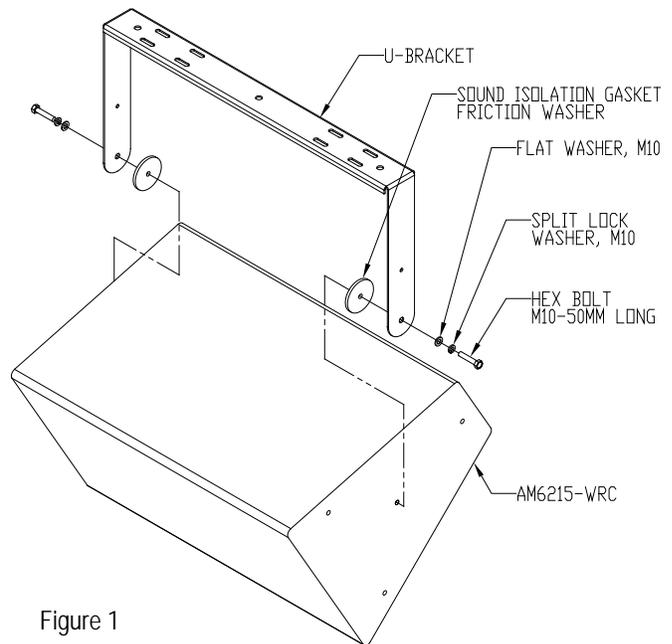

Figure 1
Step 3: Place the speaker between the U-Bracket's arms. Insert a hex bolt, flat washer and split lock washer (must match the speaker's thread) through the hole in the arms with the sound isolation gasket. Thread the bolt into the loudspeaker. Repeat on the other side of the speaker (Figure 1). Do not fully tighten yet.